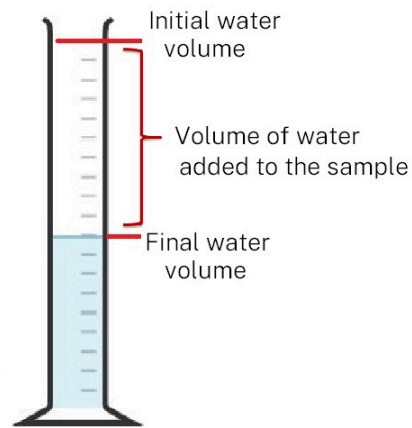

Figure 18 Volume of water added to the soil sample
8. Calculate the **volume of water poured into the sample = initial water volume – final water volume**. See Figure 18. Record this into the results table.